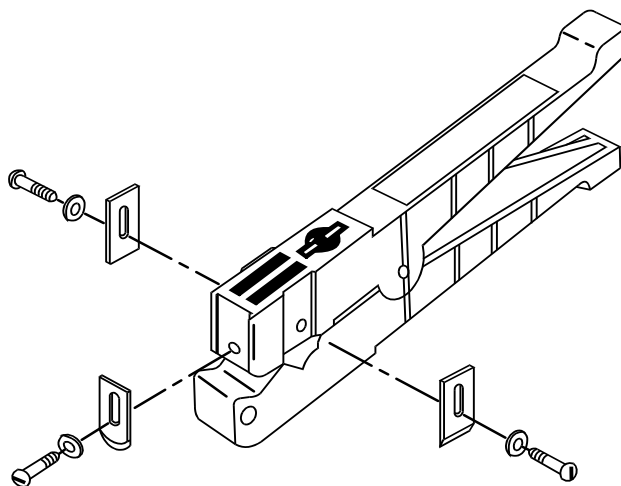

Figure 3-12
33. As their name implies, coaxial cable strippers are used for preparing coaxial cable. Coaxial cable strippers are unique in that they have two blades located on each side of the tool and a round blade attached to the front, as can be seen in Figure 3-12.
35. As depicted in Figure 3-12, the two blades located on each side of the tool may be adjusted individually to vary the stripping dimension and the depth of the cut. The axial stripping blade attached to the front of the stripper is used to slit the cable axially (along the length of the cable).